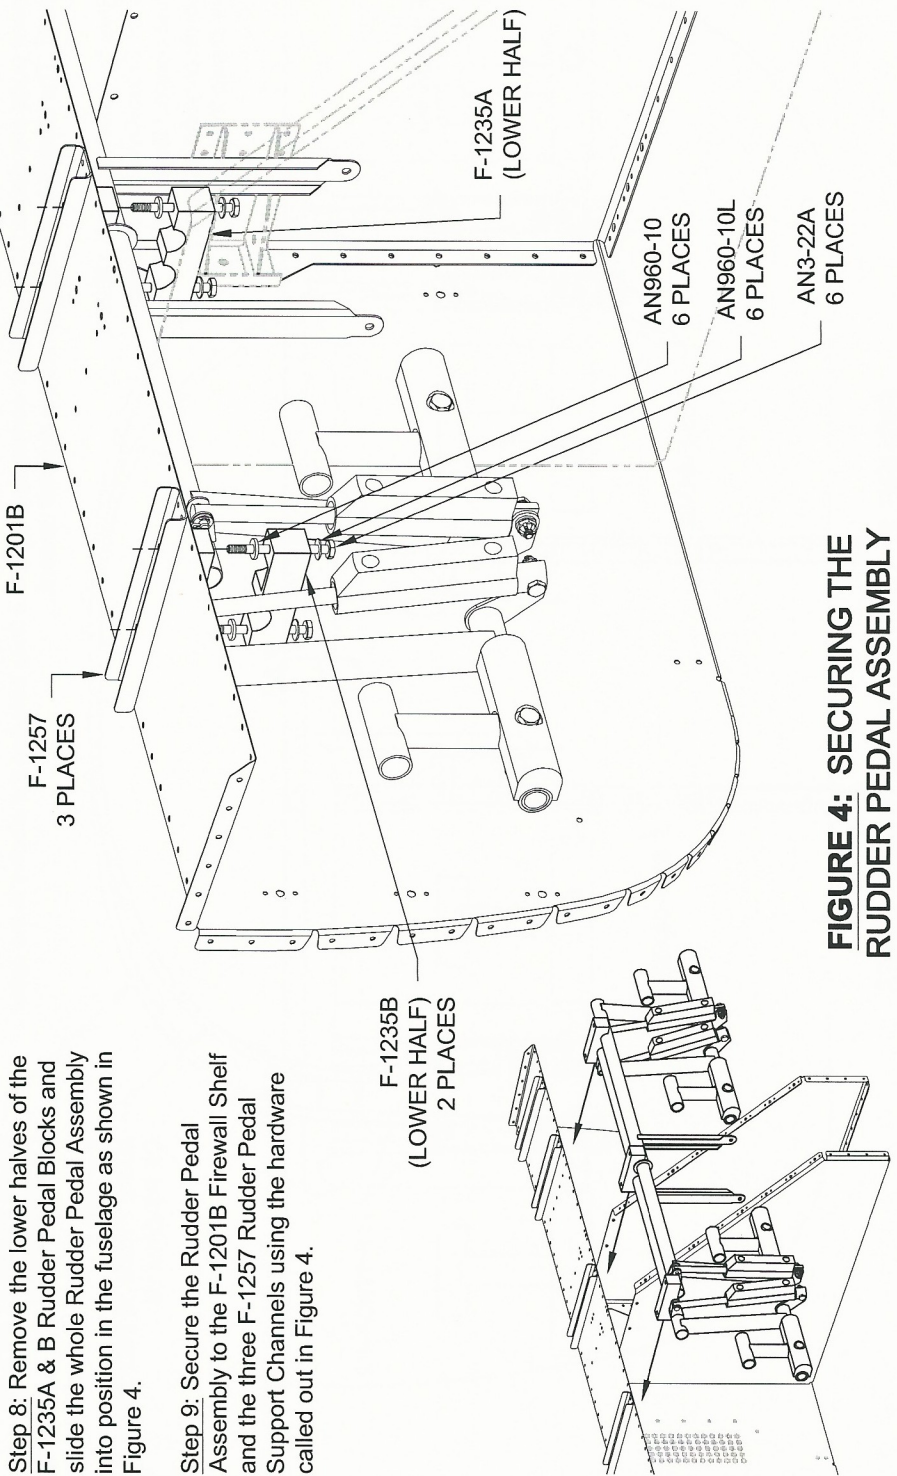

FIGURE 4: SECURING THE RUDDER PEDAL ASSEMBLY
Step 8: Remove the lower halves of the F-1235A & B Rudder Pedal Blocks and slide the whole Rudder Pedal Assembly into position in the fuselage as shown in Figure 4.
Step 9: Secure the Rudder Pedal Assembly to the F-1201B Firewall Shelf and the three F-1257 Rudder Pedal Support Channels using the hardware called out in Figure 4.